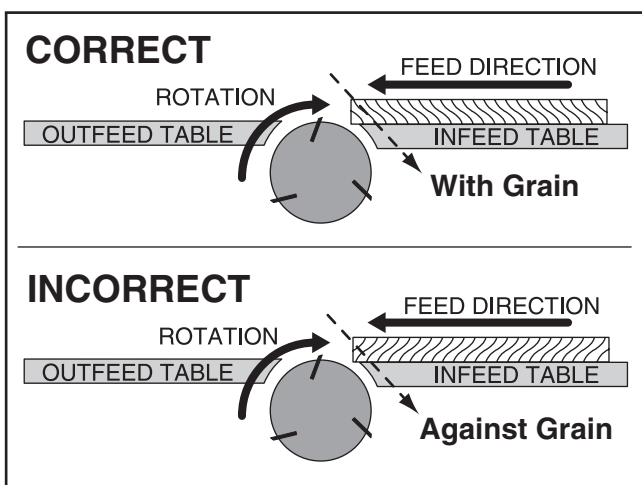

Figure 32. Illustration showing correct and incorrect grain alignment with cutterhead.
- **Jointing and surface planing WITH the grain produces a better finish and is safer for the operator.** Cutting with the grain is described as feeding the stock on the jointer so the grain points down and toward you as viewed on the edge of the stock (**Figure 32**).